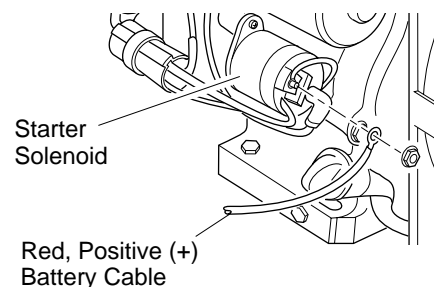

Figure 10 - Connecting Red, Positive (+) Battery Cable to Engine Starter Solenoid (Model MGH7000D Shown)
1. Attach the red, positive (+) battery cable to the starter solenoid on engine (see Figure 10). The starter solenoid is located directly above the starter on Model MGH10000A. This cable is factory installed.